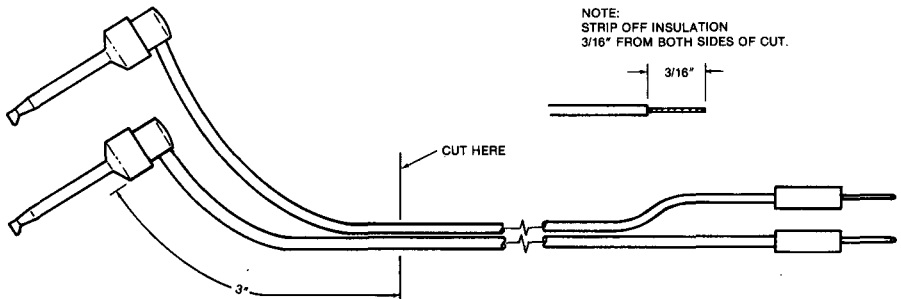

Fig. B-1. Preparation, step 1.
1. Cut meter leads as shown in Fig. B-1: